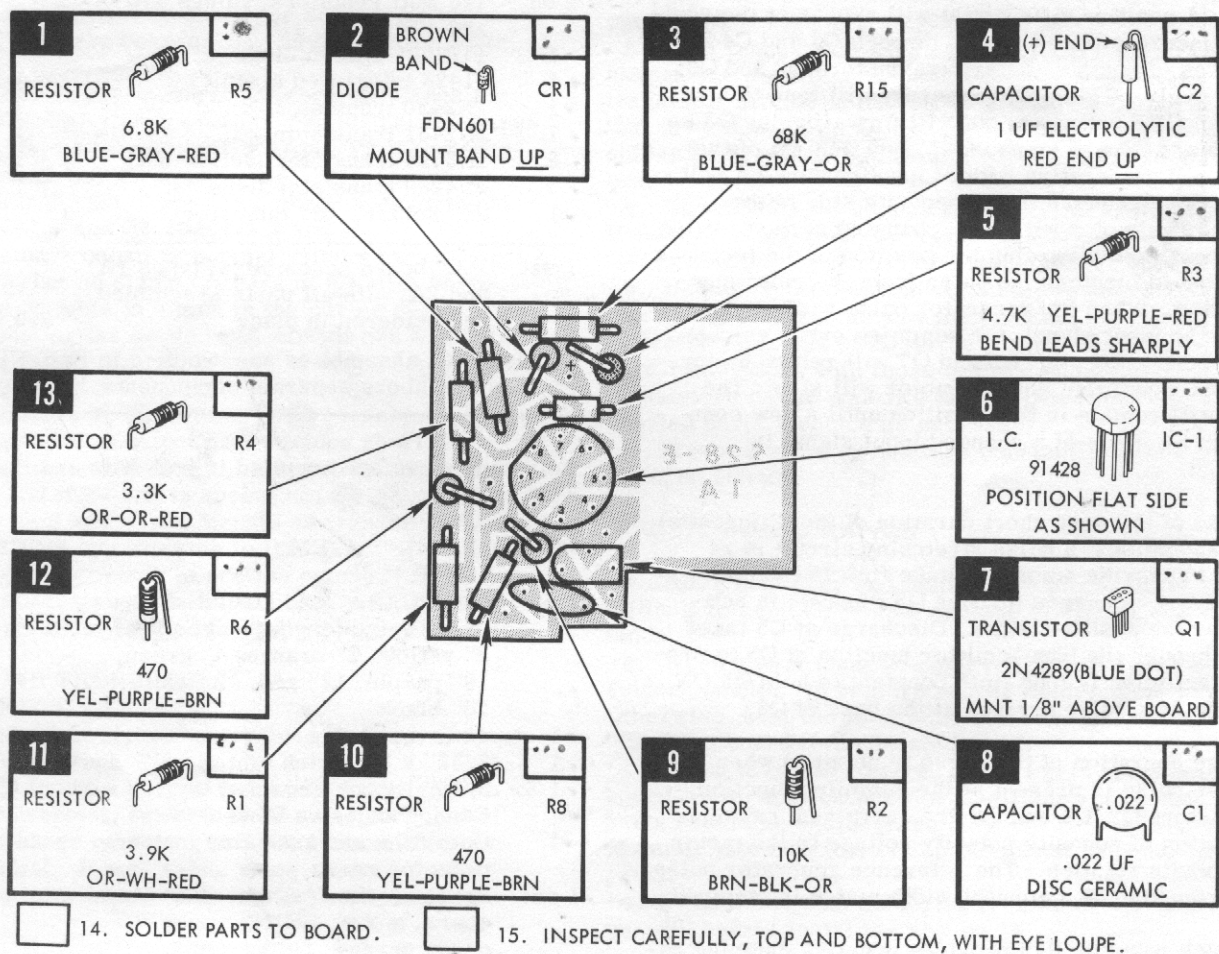
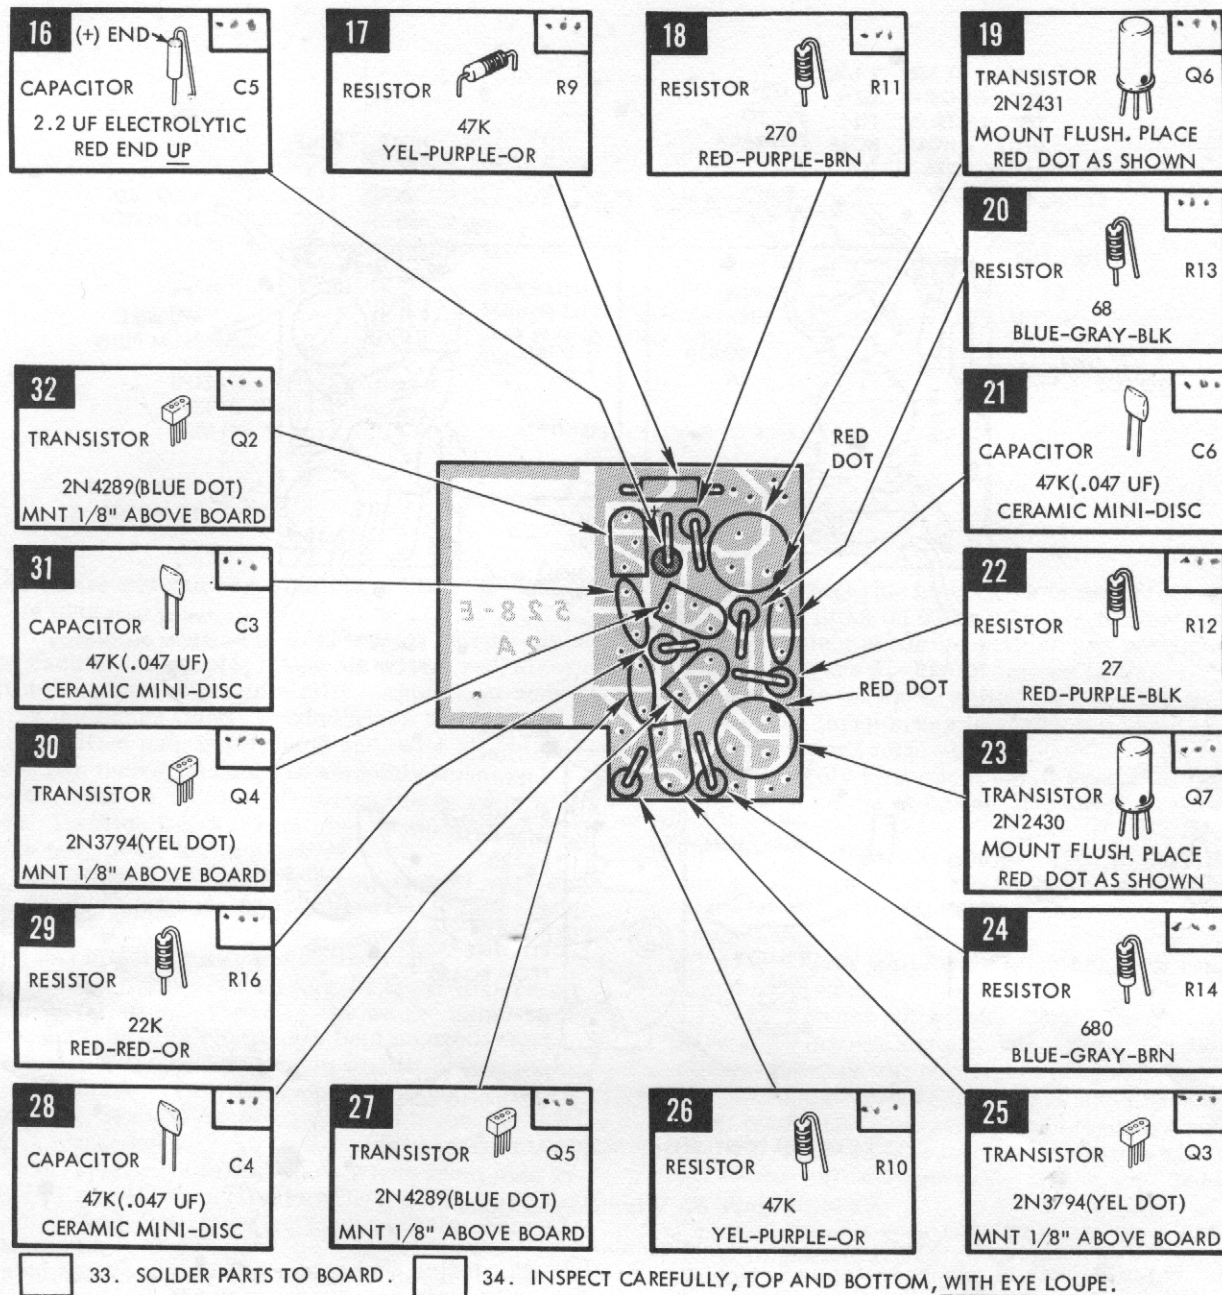

Figure 3. Assembly of Board 1A.
Figure 4. Assembly of Board 2A.
a. Position printed circuit board 1A, metal side down, so that hole arrangement corresponds with layout in figure 3. Proceed with steps 1 through 15, then repeat process with board 2A and steps 16 through 34, figure 4. Omit steps 1 through 34 on Half-Kits.